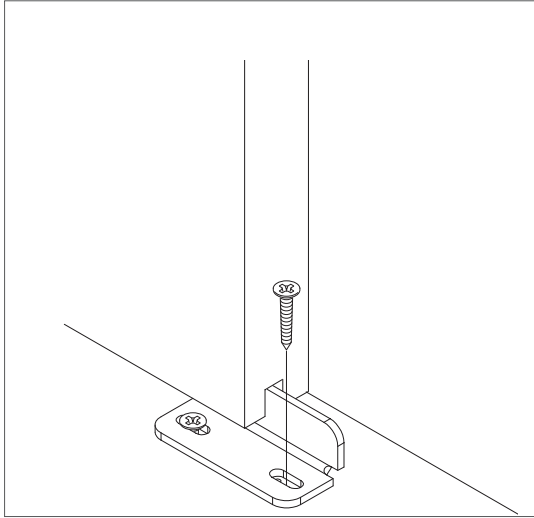

Figure 9
17. Install the second 1" phillips screw (provided) using a drill with a phillips bit (Figure 9).